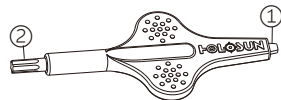

Fig 9
2. T10 Torx tool for screws (see Fig 9).